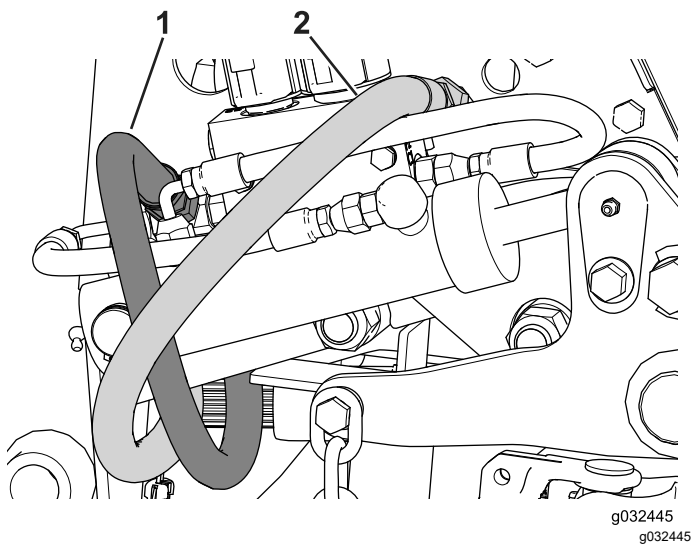

Figure 124
4. Install the hydraulic-return hose to the port marked T on the control valve (Figure 124).
5. Install the hydraulic-supply hose to the port marked P2 on the control valve (Figure 124).